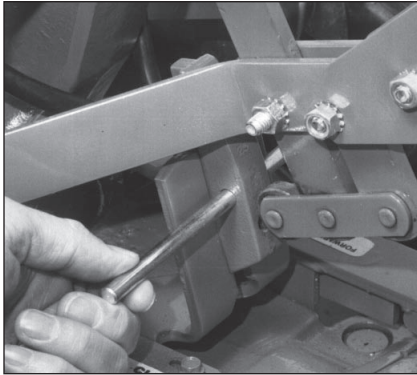

Figure 5-14: With Wheels/Tines/PTO Drive Lever in NEUTRAL, insert tool through hole in adjustment block.
3. Insert the belt adjustment tool through the hole in the side of the adjustment block, spacing the ends of the tool equally on both sides (Figure 5-14). Rotate the tool so the slotted end faces down.